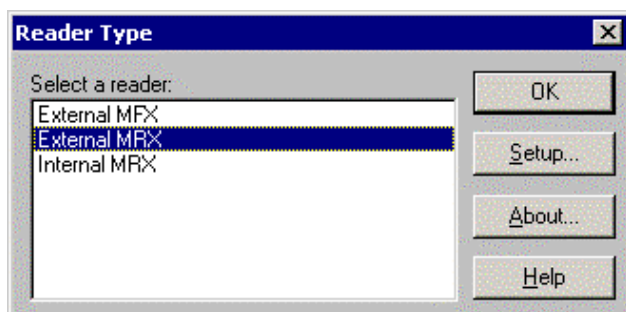

Figure 4-8 The Reader Type Dialog Box
- If no assays are open (e.g. the system has just been powered up and the initial self-test is closed), the *Reader Type* dialog box (Figure 4-8) is presented; the user should check that the appropriate system type is selected and then press **Setup**.